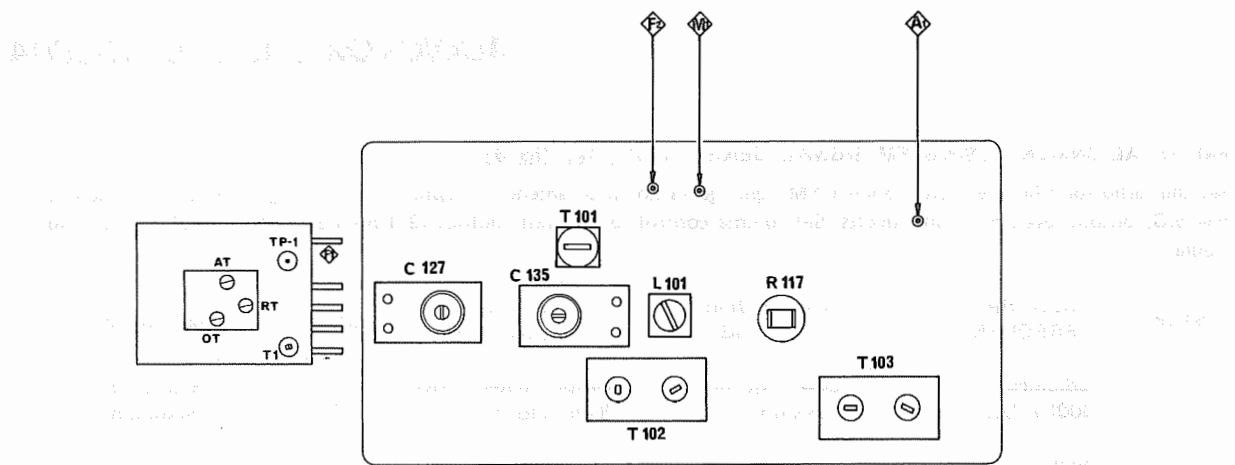

Fig. 8
6. Alignment location details: See fig. 8, 9